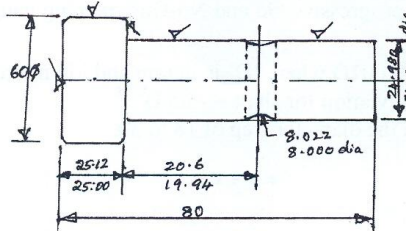

Fig.Q4(a)
- 4 a. For the component shown in Fig.Q4(a). Identify the functional and manufacturing datum and suggest suitable manufacturing dimensions and give the modified manufacturing drawing. (10 Marks)